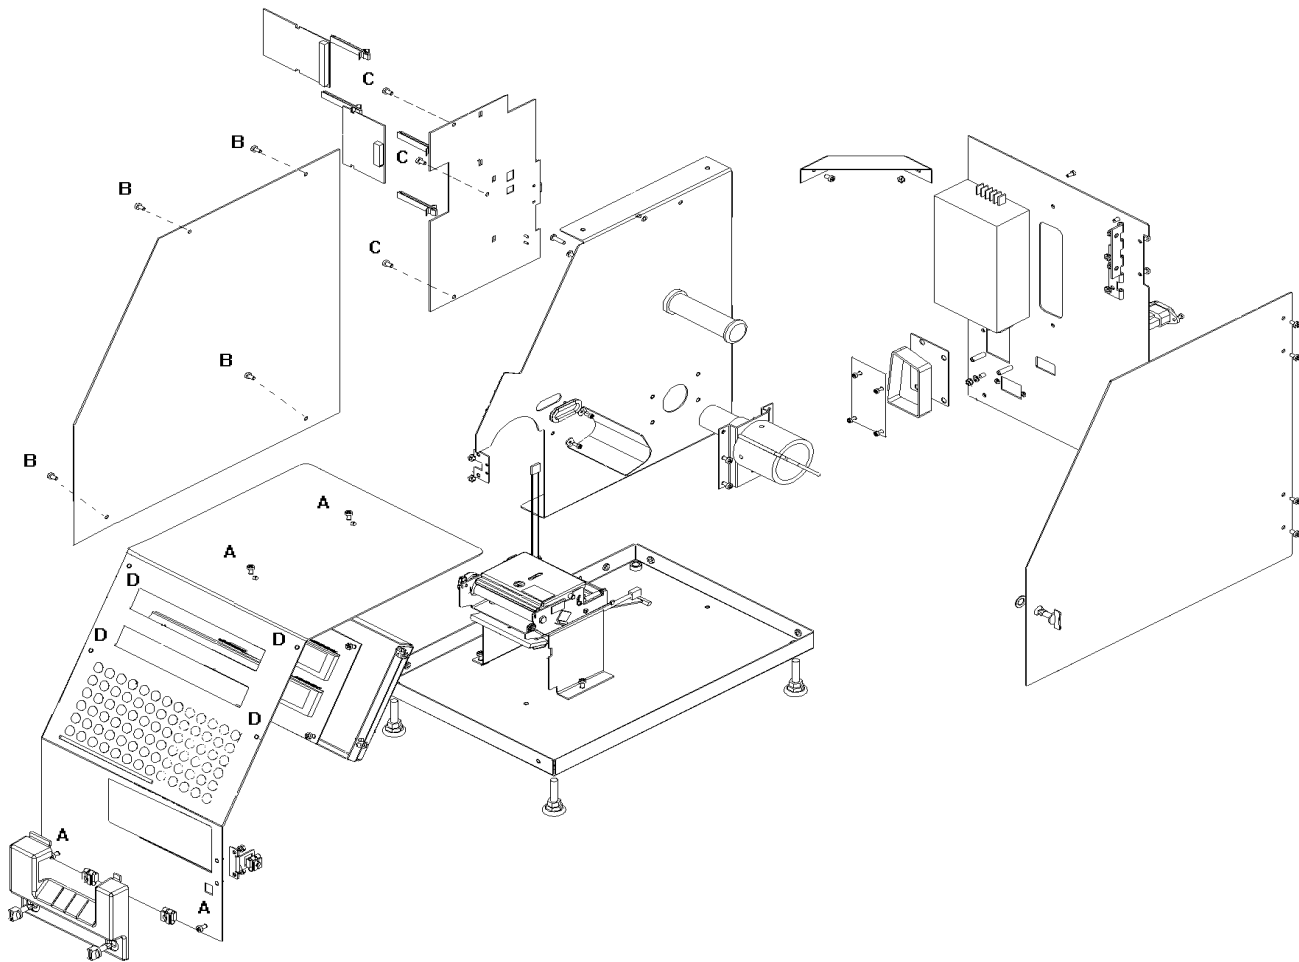

Figure 6-1 Cover Removal
Refer to Figure 6-1 for access to the Display PCB and the Main PCB. When removing the display PCB, disconnect the keyboard harnesses and display harness before lifting the front cover off.
- 1 For Display PCB access, remove the four Phillips Head screws, marked as **B** in Figure 6-1, to remove left side cover.
- 2 Remove front cover by removing four Phillips Head screws marked as **A** in Figure 6-1. **Caution:** Keyboard and display harnesses are still attached to front cover.
After removing front cover turn it upside down and remove the four nuts holding the display bracket to front cover (Nuts are located on back side of studs marked as **D** in Figure 6-1. Disconnect keyboard and display harnesses at this point.
- 1 For Main PCB access, remove the four Phillips Head screws, marked as **B** in Figure 6-1, to remove left side cover.
- 3 Remove the three screws holding Main PCB, marked as **C** in Figure 6-1, and replace.